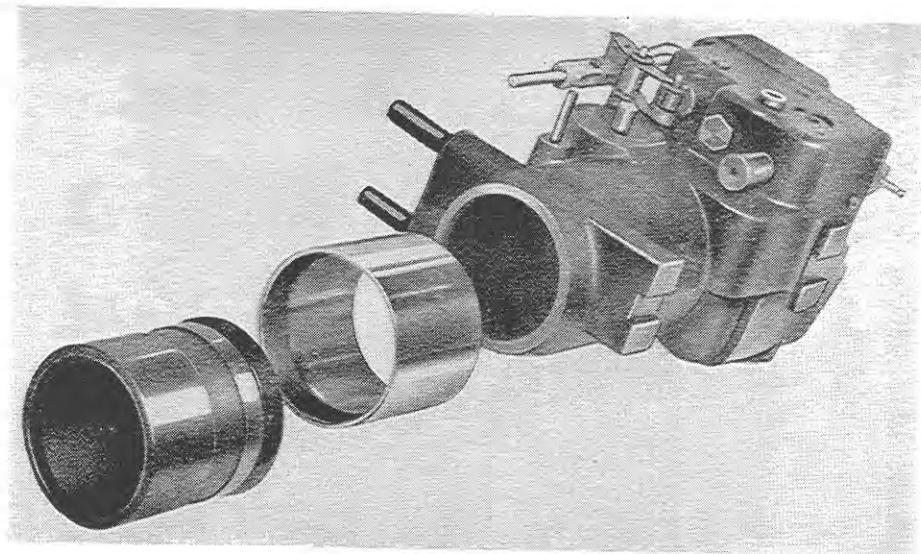

Fig. 10
- 2) Fit the piston into the cylinder assembly using tool MINO (Fig. 10).